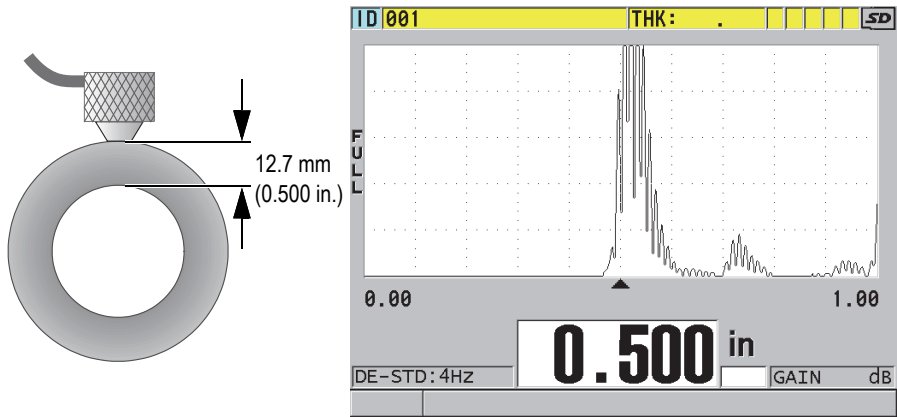

Figure 5-9 Coupling dual element transducer and reading the measured thickness
- Using moderate to firm pressure, couple the tip of the transducer to the surface of the test material, and keep the transducer as flat as possible on the material surface (see Figure 5-9 on page 92).